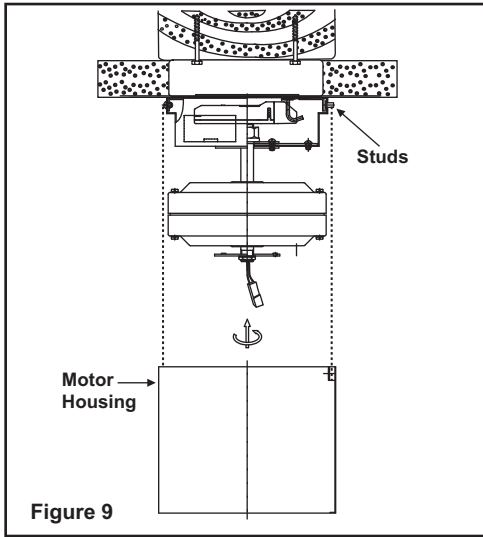

Figure 9
Step 2. Raise the motor housing up against the mounting bracket, the four supports inside the housing should be placed against the four studs on mounting bracket, twist the housing clockwise until snug (Fig. 9).